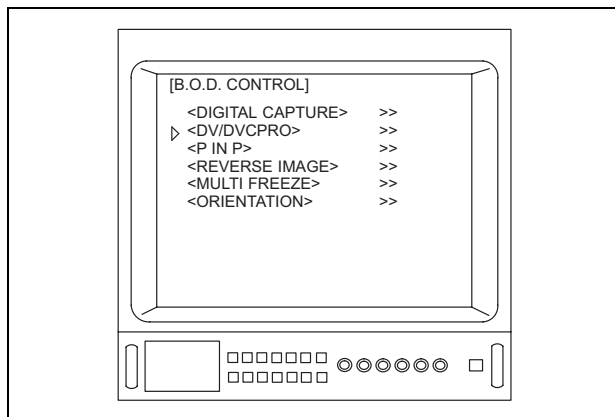

Figure 5.90
4. Depress the menu switches "◀" or "▶", or the "↑/↓/←/→" key on the keyboard to move the arrow "▷" to "DV/DVCPRO" (see Figure 5.90).
Depending upon B.O.D.s which are installed in the OTV-S7V, the menu shown in Figure 5.90 may appear different from that displayed on the video monitor.